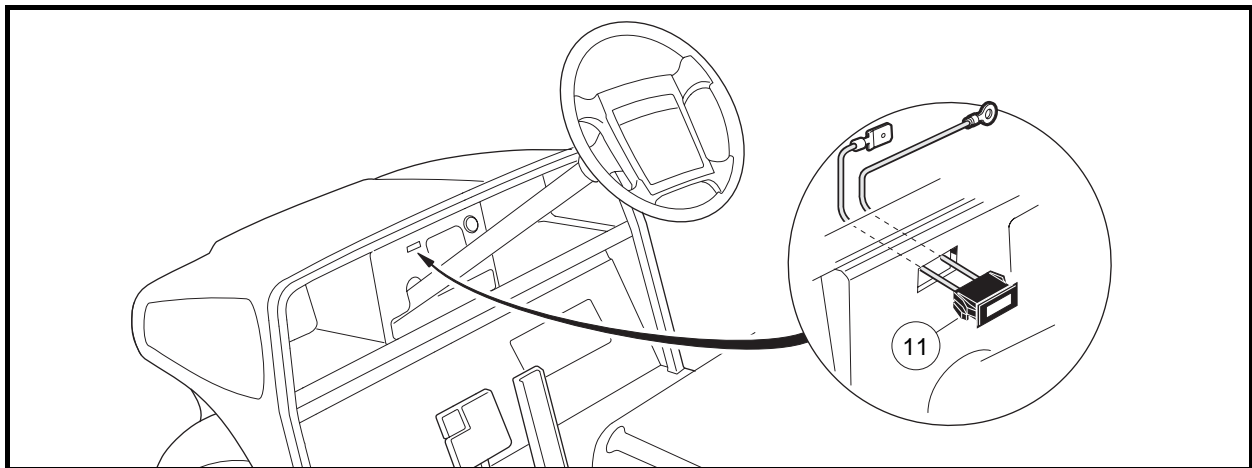

Figure 13-10 Battery Warning Light
4. Press the two retaining tabs (11) and remove the light from the center dash (**Figure 13-10, Page 13-15**).